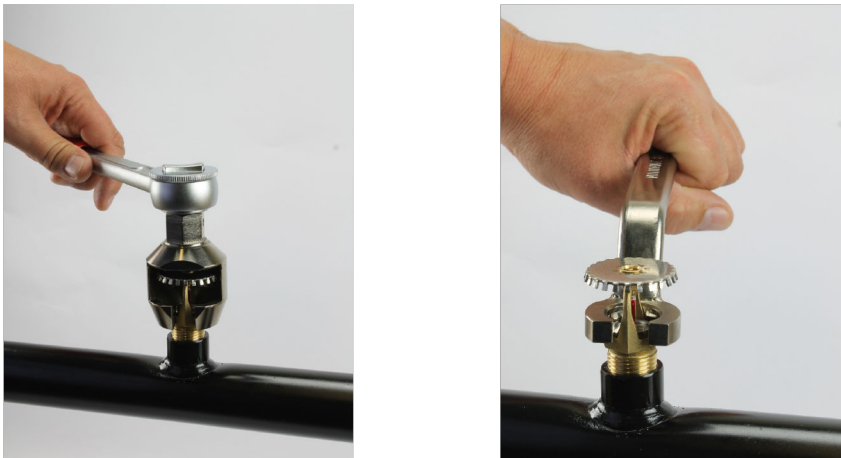

Fig. 6: Set the sprinkler socket (left) or sprinkler wrench (right) on the hexagonal bolt
4. Set the sprinkler socket or sprinkler wrench on the hexagonal bolt on the sprinkler (Fig. 6).